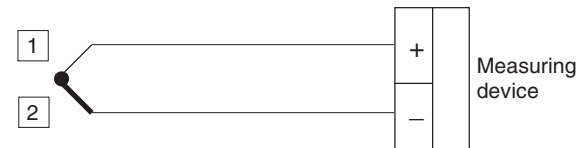

Fig. 5.4
- a) Measure the temperature close to terminals 1 and 2 using an appropriate instrument, for instance, a MEMOCAL (see Fig. 5.4).